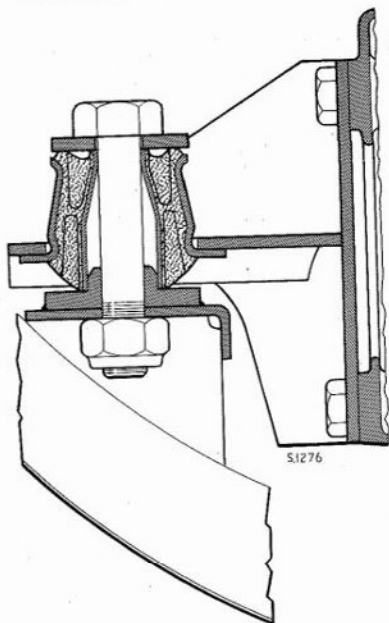

Fig. B.59. Sectional view of the rear engine mounting
- Unscrew and remove the "Simmonds" nut from the mounting bolt, which passes down through the mounting rubber positioned on the clutch housing bracket (see Fig. B.59). Withdraw the mounting bolt from above, complete with the rebound washer.
**Rear.** Unscrew and remove the "Simmonds" nut from the mounting bolt, which passes down through the mounting rubber in each clutch housing bracket (see Fig. B.59). Withdraw the bolts from above, complete with the rebound washers. The flange of the mounting rubbers are secured by two setscrews and nuts to the underside of each clutch housing bracket.